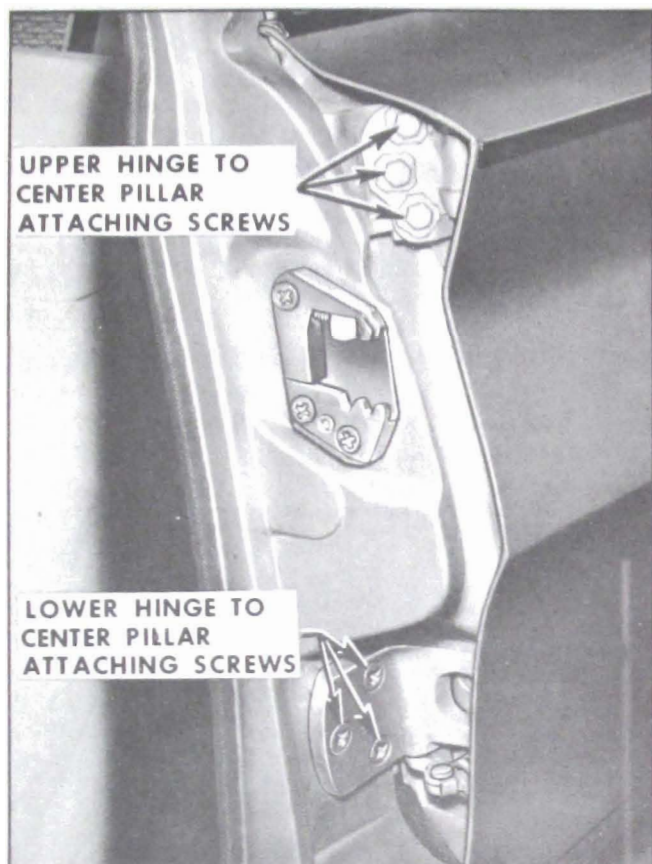

Figure 13-47—Rear Door to Center Pillar Attachment
2. With door properly supported, remove three (3) upper and lower hinge attaching screws at door hinge pillar or screws and bolts at center pillar, depending on method of removal being used. See Figure 13-47.